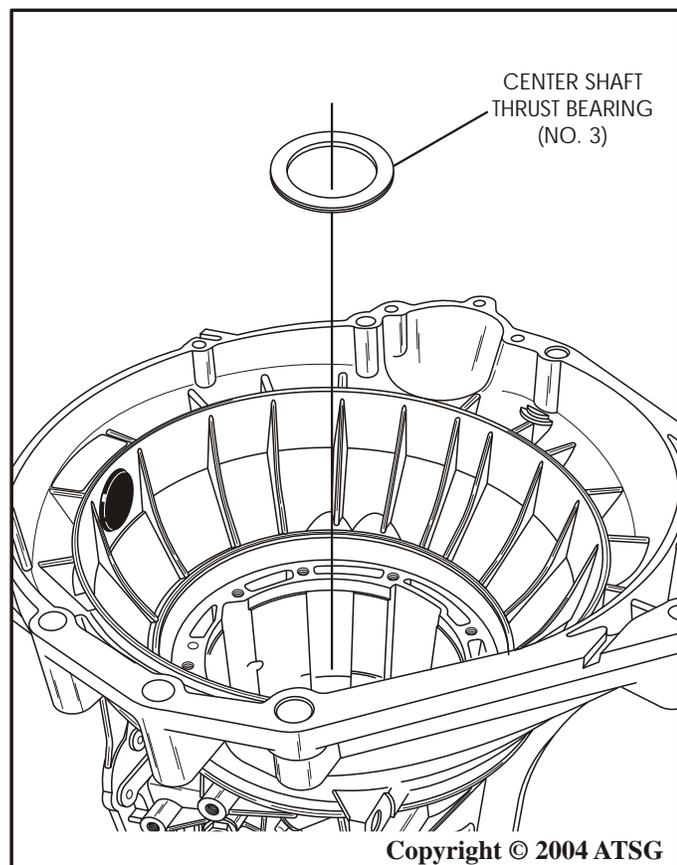

Figure 156
- 42. Install the center shaft to center support thrust bearing (No. 3) onto the center support, as shown in Figure 156.